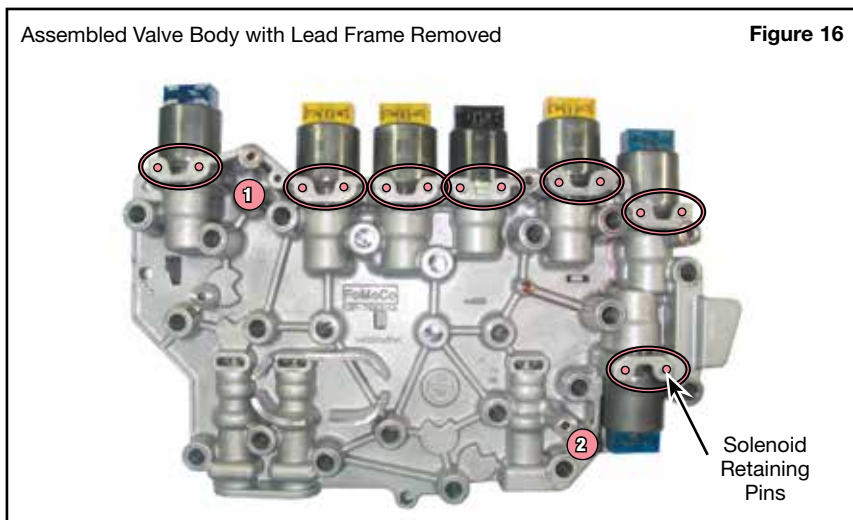

Figure 16
- There are 14 solenoid retaining pins (two per solenoid) that keep the solenoids in the casting. Handle the casting with care so these do not fall out and allow solenoids to come out and become mixed up (Figure 16).
- To remove solenoid body from valve body, remove two bolts (pink), (Figure 16).
- b. Bolt solenoid body to valve body with two bolts. Torque to 89 in-lb (**Figure 16**).